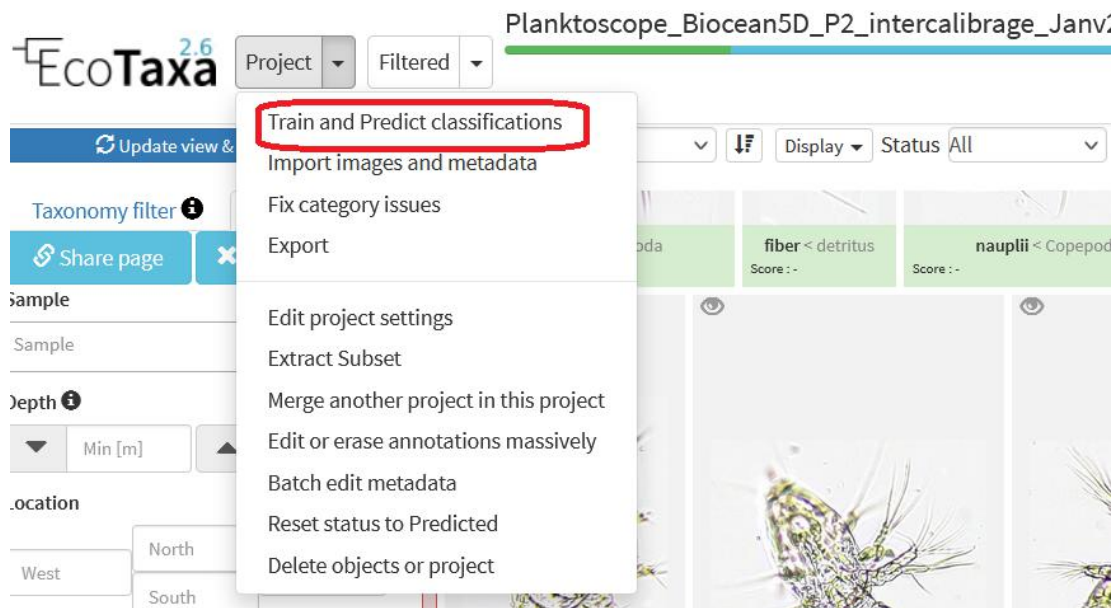

Figure 11: Click on the button "Train and Predict classifications" to start a prediction
- In "Project" (or "Filtered", if only the filtered images need to be predicted), select "Train and Predict classifications" (Fig.11).